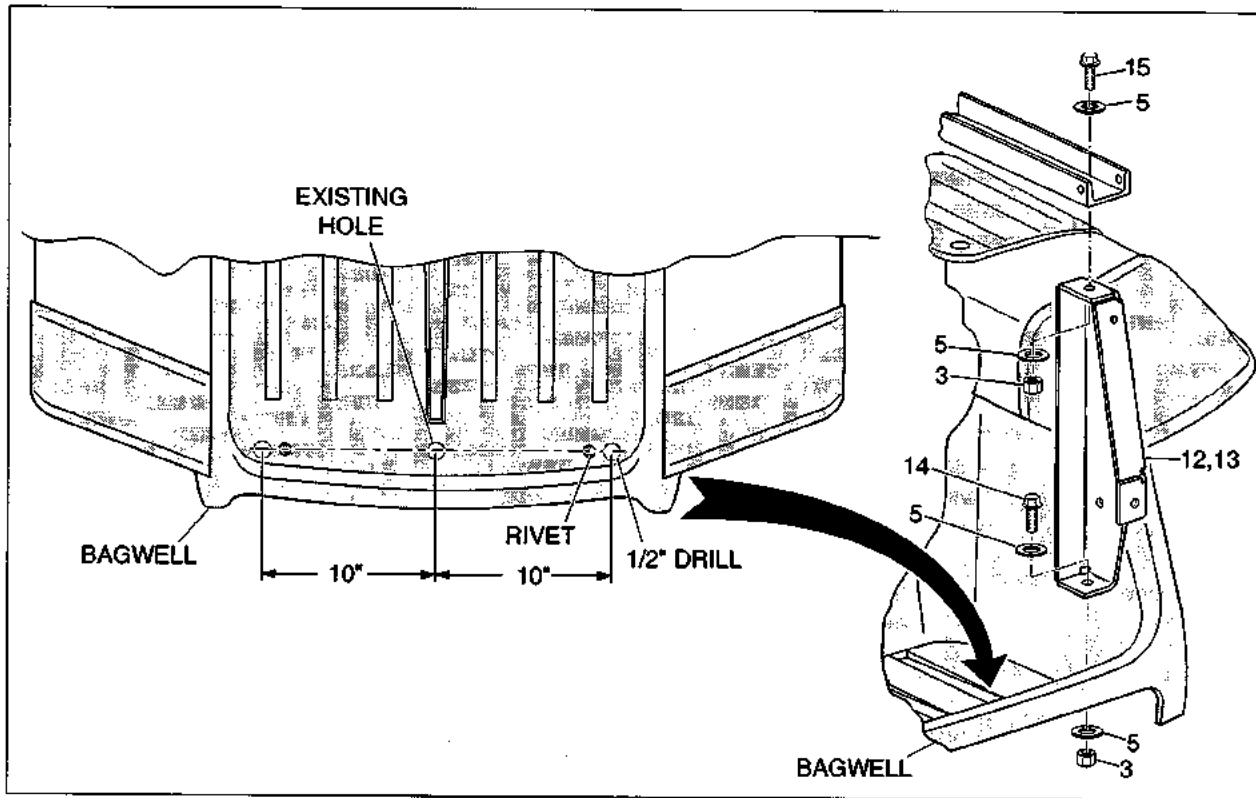

Fig. 4
2. Drill two 1/2" holes through the bottom of the bagwell and through the frame below the bagwell. See Fig. 4 for location of holes.
3. Place vertical frame support (items 12 and 13) between the seat back support and bagwell as shown. Insert screw (item 14) and washer (item 5) on top side bagwell and place washer (item 5) and nut (item 3) underneath frame (See Fig. 4). Finger tighten the hardware since the bottom washer and nut will be removed later for further installation.
4. Secure the top of the vertical frame support to the seat back support using bolt (item 15), washers (item 5) and nut (item 3) (See Fig. 4). Do not tighten hardware.